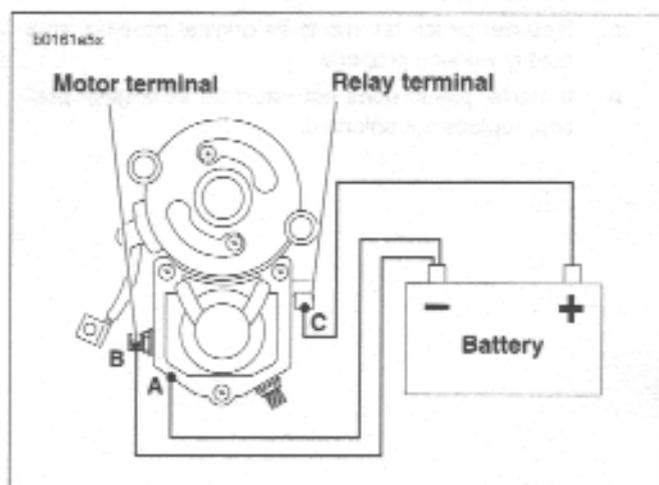

Figure 5-11. Pull-In Test
Do not disassemble solenoid. Before testing, disconnect field wire from motor terminal as shown in Figure 5-11.
1. See Figure 5-11. Using a 12 volt battery, connect three separate test leads as follows: